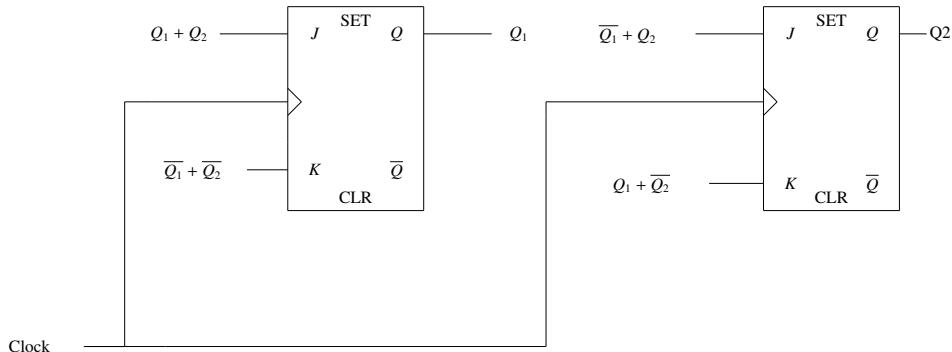

Fig. 5.21
21. A 2-bit synchronous counter using two J-K flip flops is shown in Fig. 5.21. The expression for the inputs to the J-K flip flops are also shown in the figure. The output sequence of the counter starting from  $Q_1Q_2 = 00$  is (GATE IN 2018)